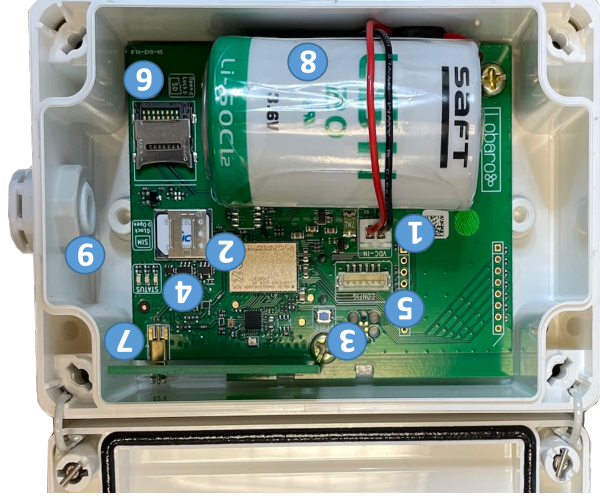

Figure 1: Device components
The associated battery is equipped with velcro fluff, which is to be attached to the velcro hooks of the device at position (8) when inserting it. Make sure that the connecting cable of the battery is routed around the battery body as shown in Fig. 1. Then connect the plug connector of the battery to the reverse polarity protected socket at position (1).